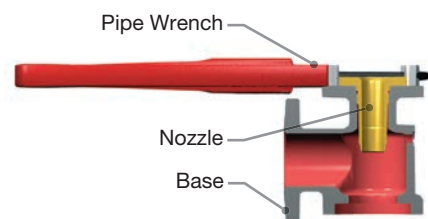

Figure 20: Removing the Nozzle from the Base
- 19. Use a large pipe wrench on the nozzle flange to remove the nozzle (2) from the base (1) (see Figure 20).